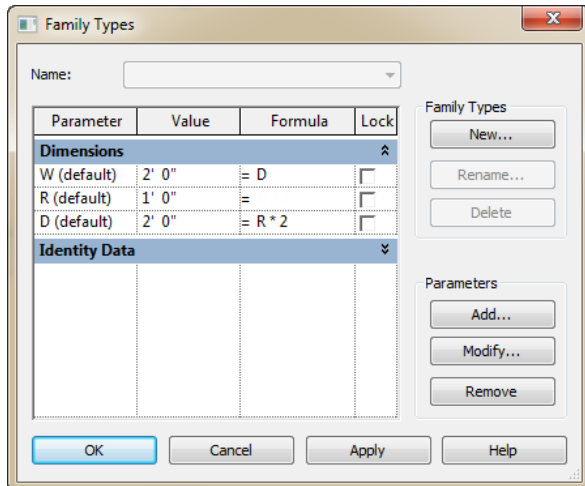

Figure 7—Link the three parameters with formulas
12. In the Formula column next to W, Type: **D**. For the Formula next to D, type: **R * 2** (see Figure 7).